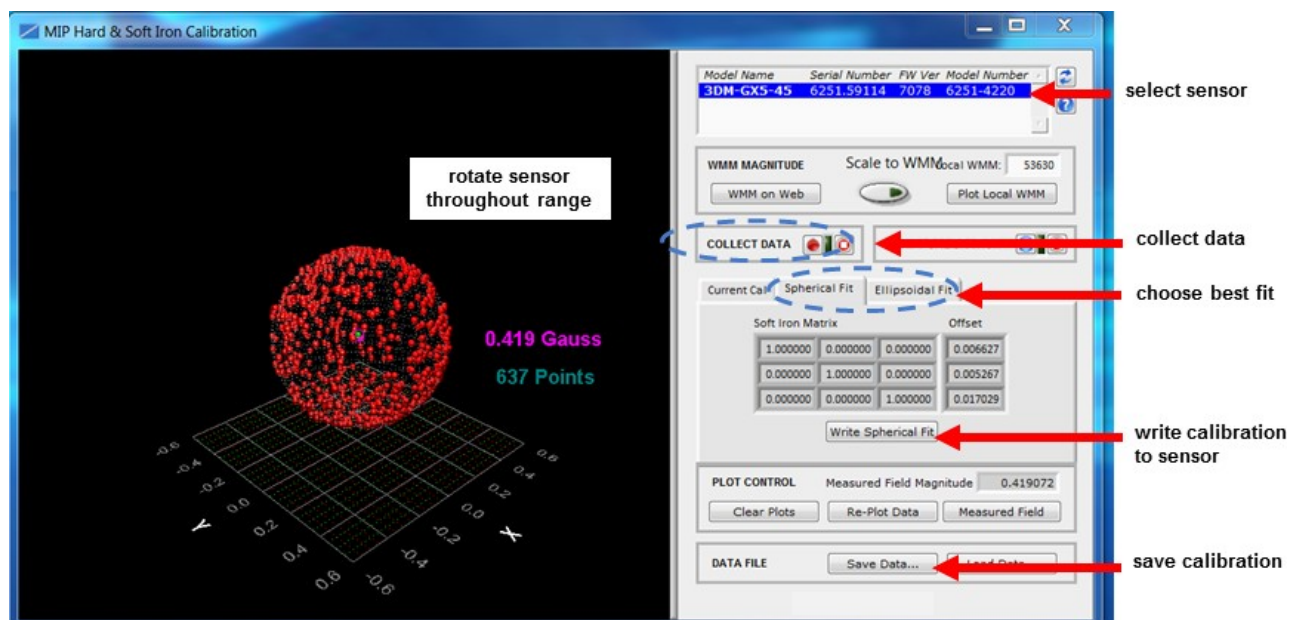

Figure 27 -Collect Calibration Data
- 6 Click the Spherical Fit or Ellipsoid Fit button, depending on the application (*Figure 27 - Collect Calibration Data*). Spherical Fit is often best for applications with calibration rotations restricted to a 2D plane: for example, a ground vehicle or a boat, because it will not likely not be rotated on all three axis. Ellipsoid Fit is generally a better correction when soft iron effects are present but only if enough data points can be collected in all